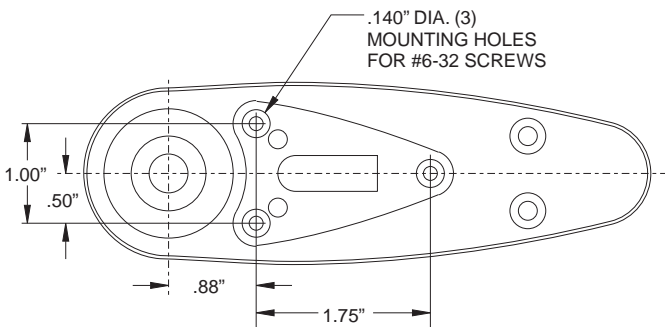

Figure 22A
1. If necessary, fabricate the mounting pattern using dimensions found in figure 22A.
4. Attach the base assembly to the wingtip using (3) #6-32 counter-sunk screws (unit may be sealed around periphery with RTV or equivalent).